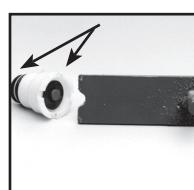

Figure 6
- Once the valve assembly is removed, the valve plates and O-rings can be replaced. The bottom valve plate is secured into place with a red retaining pin. Push pin into place using needle nose pliers. Figure 6.
### Tool for figure 6